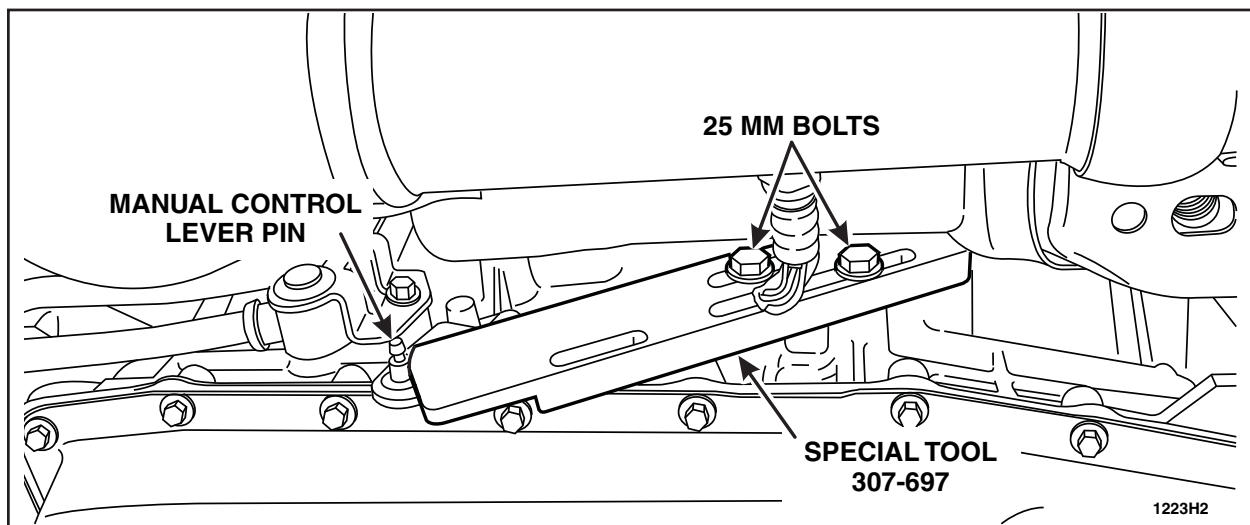

FIGURE 2
9. Install the special tool 307-697 onto the transmission. See Figure 2.